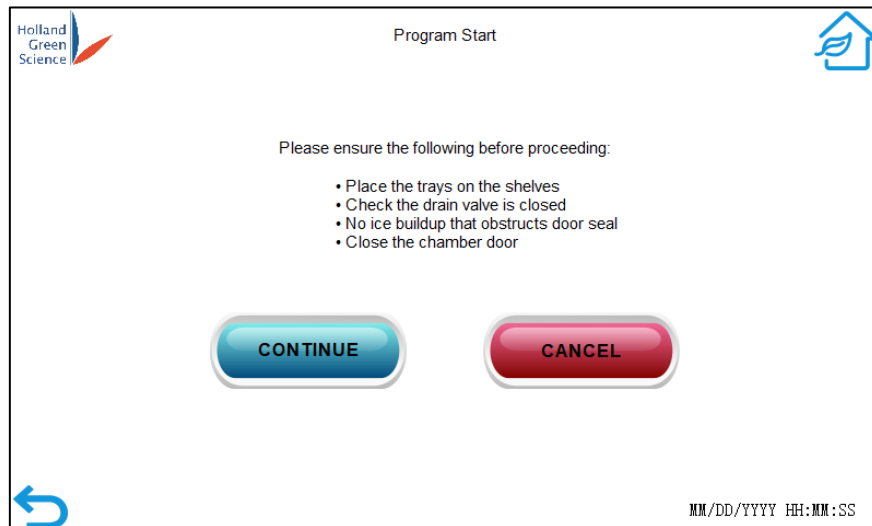
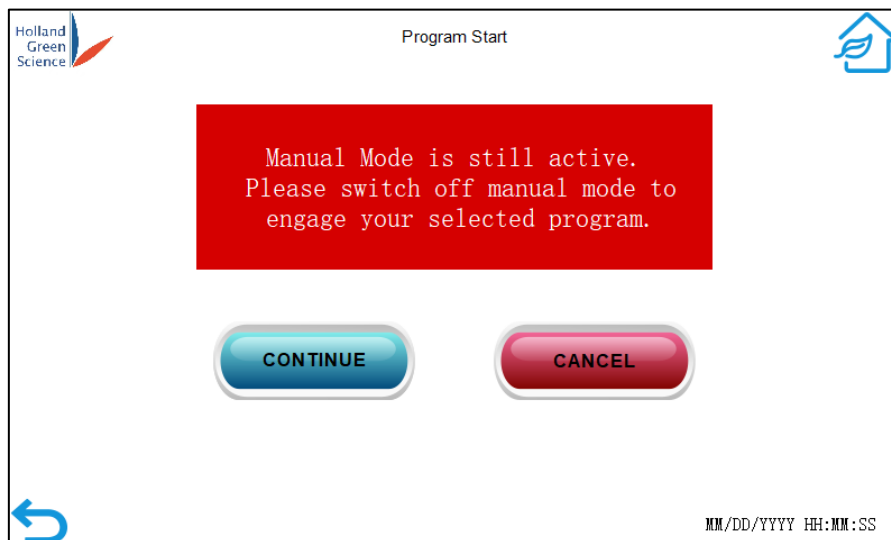

Figure 19
Figure 20
- Click on “START” when you finish entering the parameters to enter the “Process Start” page (Figure 19). Note, when Program Mode is entered, the manual control mode will be disabled, and all the parameters set in manual control mode will be reset. If the Manual Mode is still active, an alarm page will appear (Figure 20).